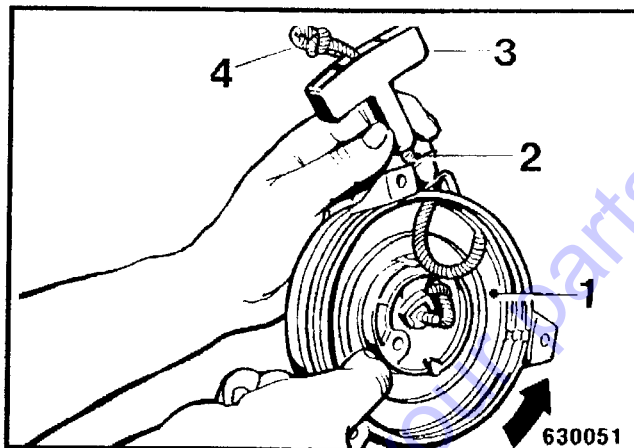

Fig. 6
- Turn the rope disc 1 (Fig. 6) 4 to 5 revolutions and hold it. Insert the starter rope (2), attach the handle (3) and make a knot at the end of the starter rope (4).